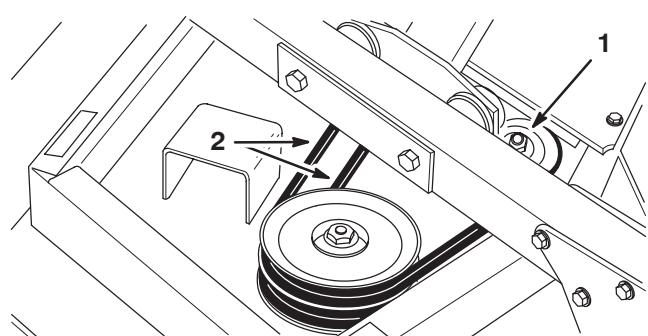
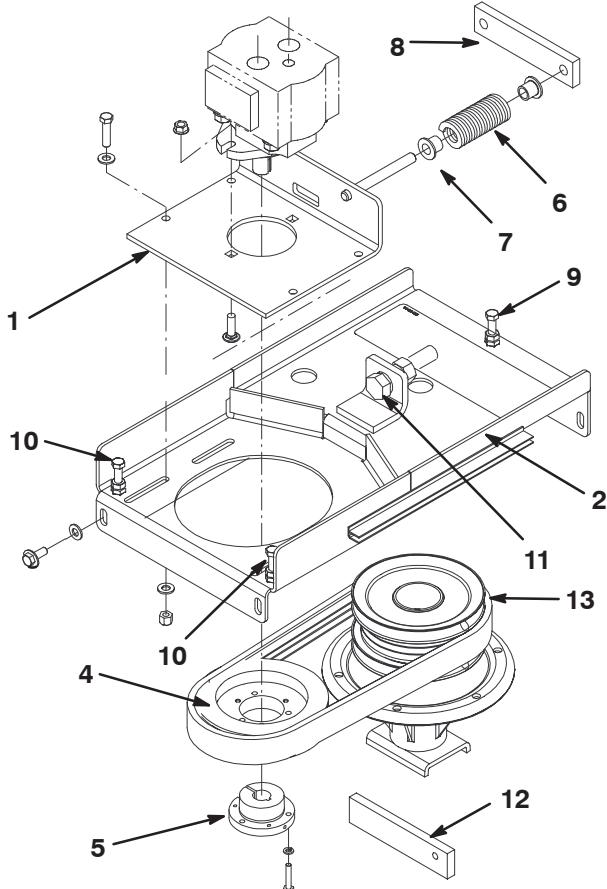

**Figure 67**
Figure 69
3. Loosen jam nut and relieve tension on springs with tensioner bolt (Fig. 67).
4. Loosen (4) capscrews securing slide plate to motor mount (Fig. 67).
5. Tighten tensioner bolt until springs are compressed to dimension shown in figure 67.
6. Tighten jam nut securing adjustment (Fig. 67).
7. Tighten (4) capscrews securing slide plate to motor mount (Fig. 67).
2. Loosen jam nut and relieve tension on springs with tensioner bolt (Fig. 69).
4. Thread the nut onto the adjusting screw and thread the screw into the rear of the motor mount (Fig. 69).
5. Loosen the (4) capscrews securing the slide plate to the motor mount (Fig. 69).
6. Remove the (4) flangehead capscrews and washers securing the motor mount to the deck (Fig. 69).
8. Position motor mount onto deck while routing belt around drive pulley (Fig. 69). Be careful not to bend, twist, kink or damage flexible hydraulic lines.
9. Loosely secure motor mount to deck with the (4) flangehead capscrews and washers previously removed.
10. Check the drive pulley (Fig. 69) height as follows:
- Slide the height gauge (Fig. 69) under drive pulley (not under taper lock bushing).
- Equally tighten or loosen (3) adjusting screws (Fig. 69) until bottom of pulley rests flush on height gauge (approximately 1-1/2").
- Tighten the (4) flangehead capscrews and washers securing motor mount to deck.
11. Tighten tensioner bolt until springs are compressed to dimension shown in figure 67.
12. Tighten jam nut securing adjustment (Fig. 67).
13. Tighten (4) capscrews securing slide plate to motor mount (Fig. 67).
4. Loosen (4) capscrews securing slide plate to motor mount (Fig. 69).
5. Remove (4) capscrews securing motor mount to deck (Fig. 69).